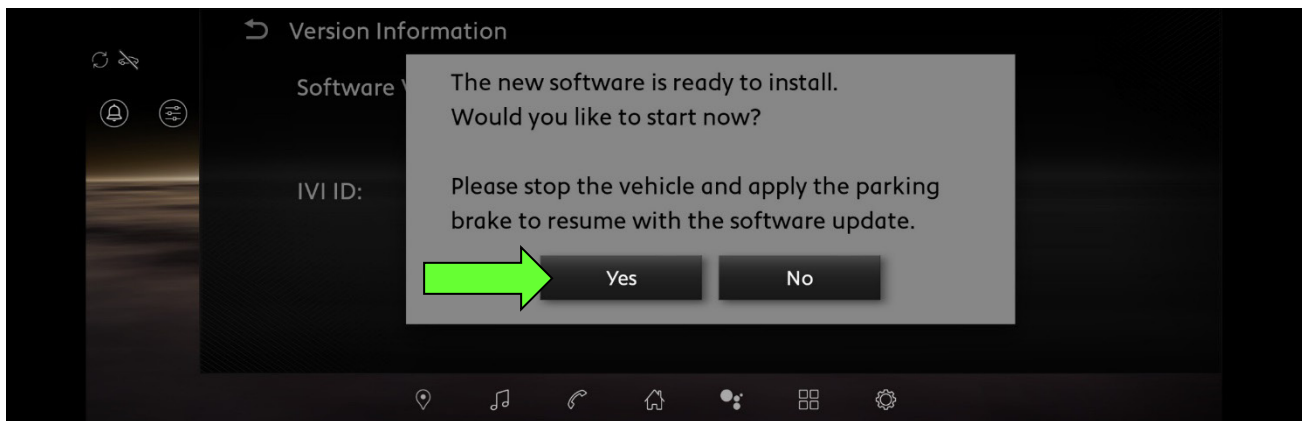

Figure 14
18. When the screen in Figure 14 is displayed, select **Yes**.